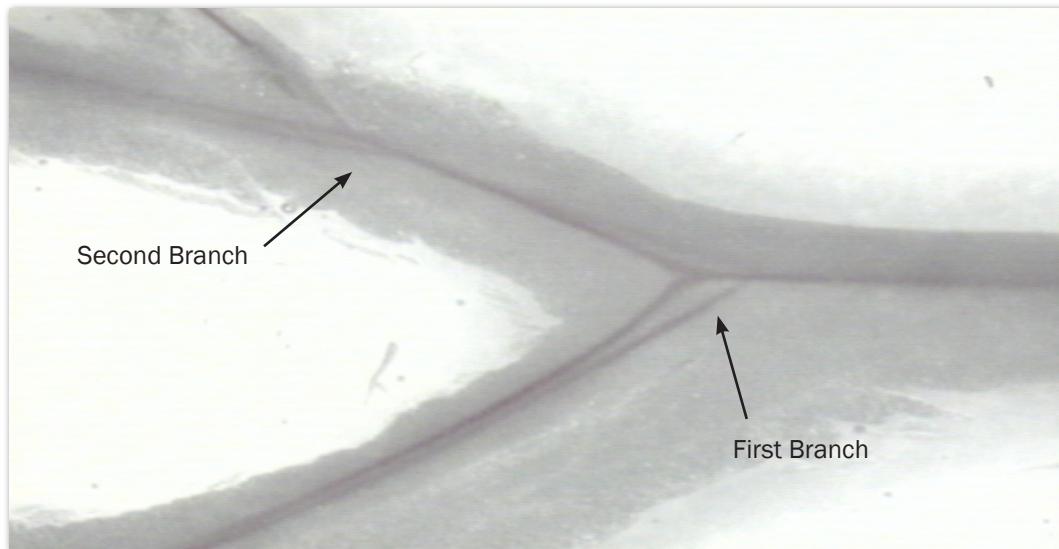

Figure 7.1 Branching of the mesenteric arteries
5. Select the vessel segment to be investigated (fig. 7.1). First time myograph users are recommended to start dissecting and mounting vessel segments from the first or second branch from the superior mesenteric artery (approximate internal diameter 200-300µm).